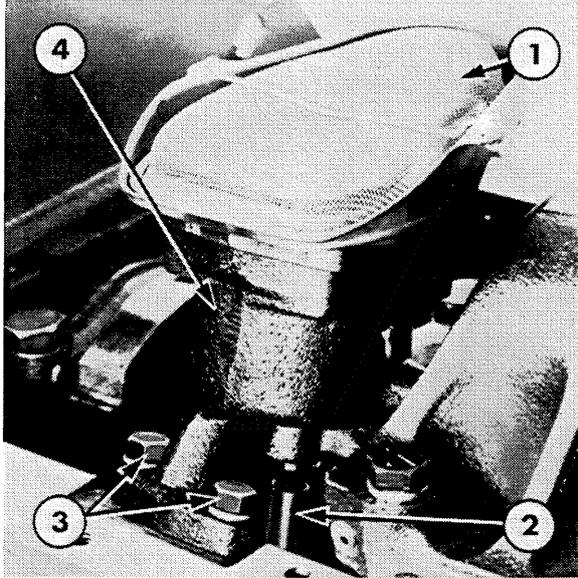

Figure 27
2. Remove the oil pump with the filter screen, Figure 27. Withdraw the intermediate shaft.